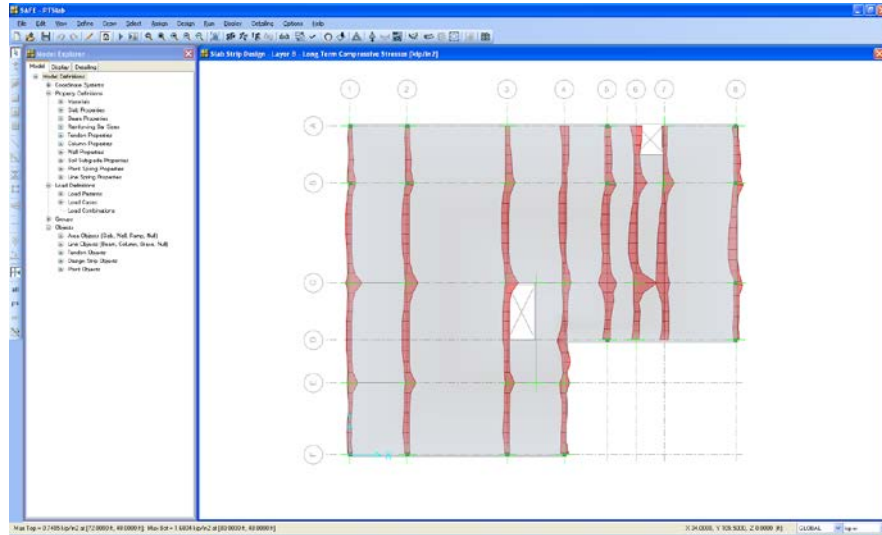

Figure 91 Layer B Long-Term Compressive Stresses
- J. Click the **OK** button to leave the Slab Design form and display the long-term compressive stress check results for the Layer B direction. The view will be updated to that shown in Figure 91. Again, positioning the cursor anywhere on the strips will result in the display of the stress check values in the lower left-hand corner of the SAFE window.